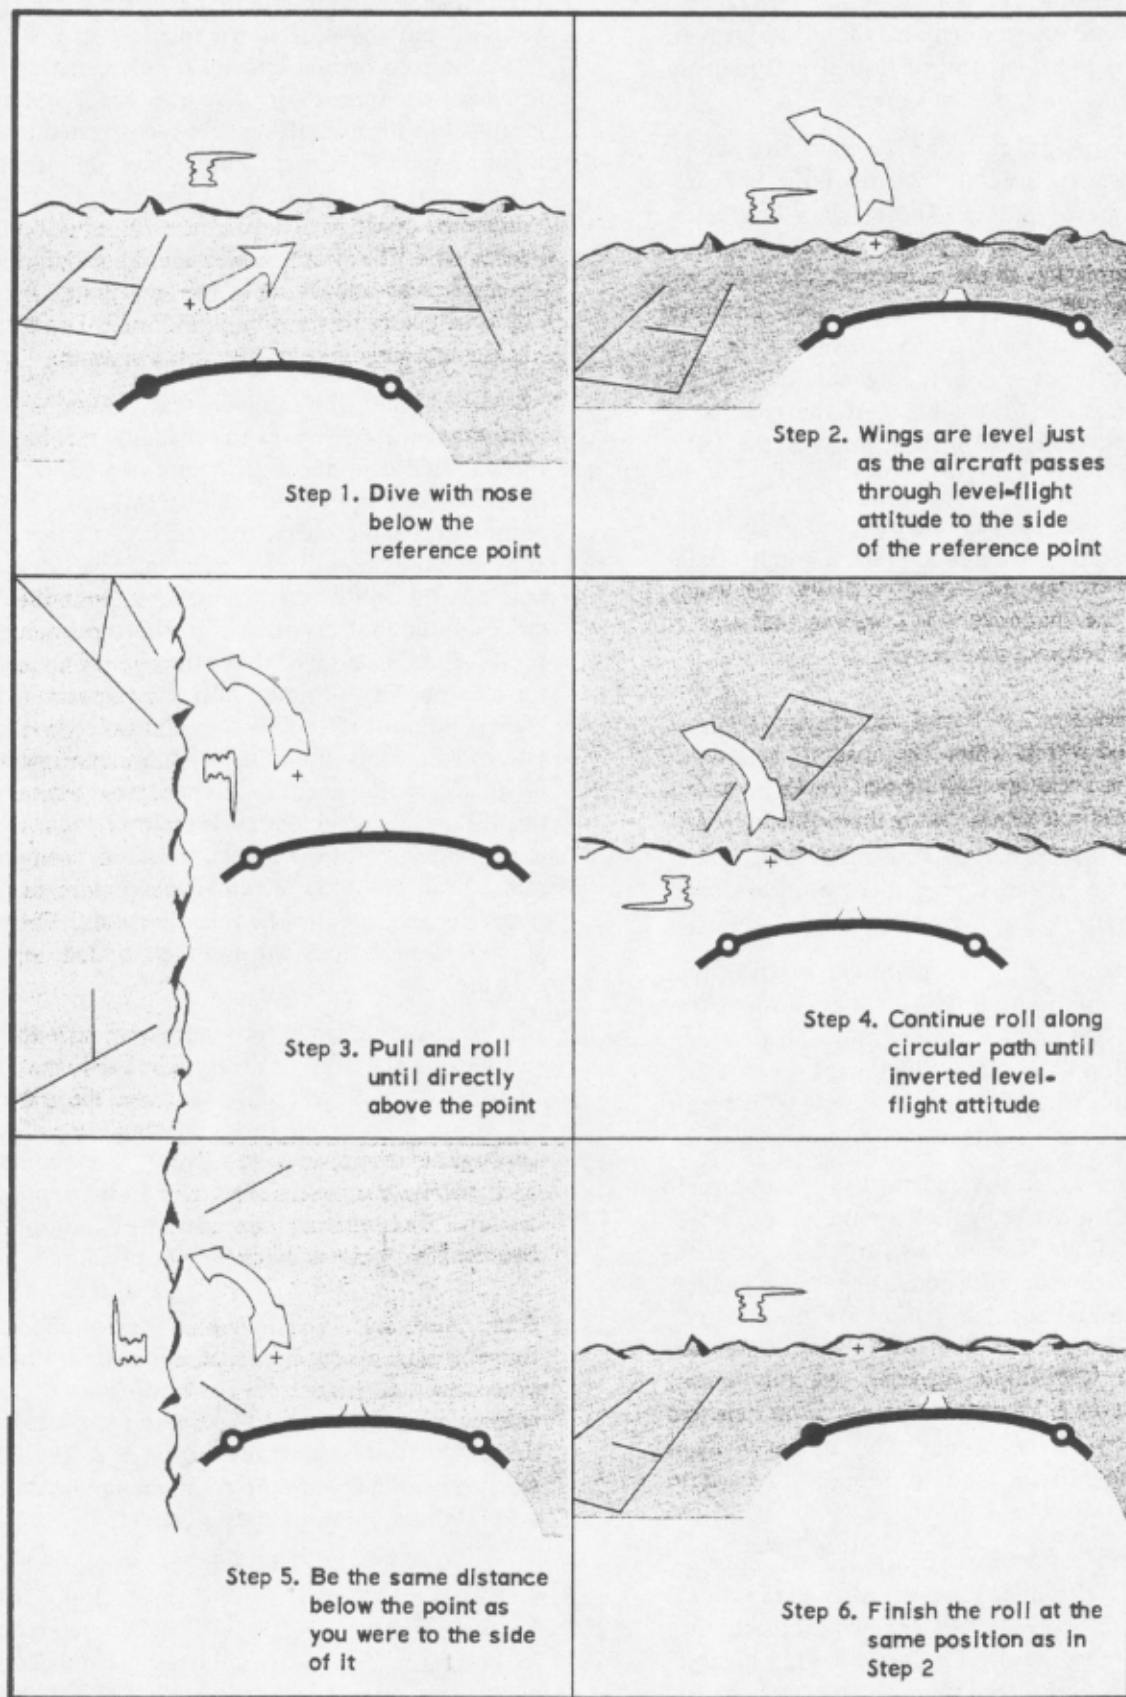

Figure 5.7. Left Seat View of Left Barrel Roll Around a Cloud.
5.20. Barrel Roll. A barrel roll (figure 5.7) is a coordinated roll in which the nose of the aircraft describes a circle around a point on the horizon. Maintain definite seat pressure throughout the roll. Practice the barrel roll in both directions. There is little or no net loss or gain of altitude from the maneuver.